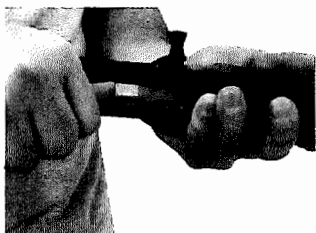

Fig. 9
6. Push the shells of the correct gauge, one at a time, past feed latch into the magazine tube, ensuring the rim of each shell engages the feed latch and is held inside the magazine tube. (Fig. 9)